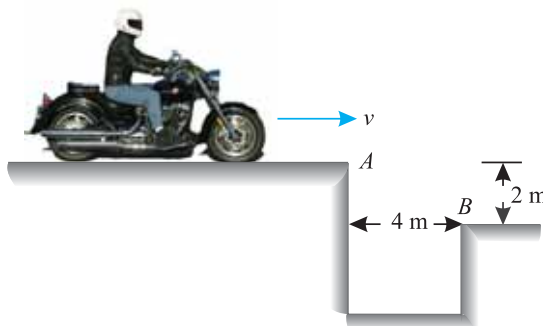

Fig. 20.2.
**Example 20.2.** A motor cyclist wants to jump over a ditch as shown in Fig. 20.2.